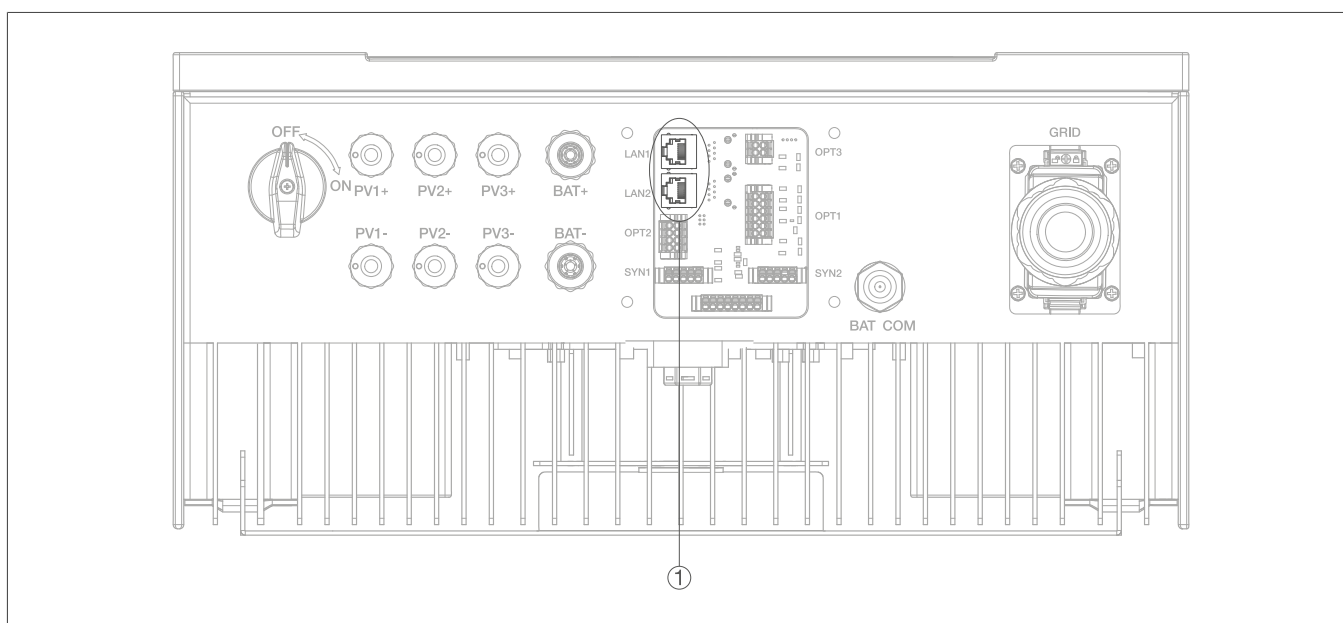

Fig. 35: Underside of the electrical functional unit, RJ45 **LAN** socket
① Ethernet/LAN connection for internet (RJ45 socket)
- ① Insert the Ethernet/LAN cable connector into **LAN1** or **LAN2**.
- ② Connect the RJ45 socket on the underside of the device (see Fig. 35) to a suitable router using a LAN cable. Special settings are usually not required.